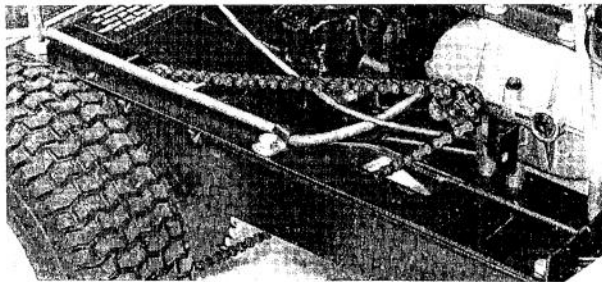

Figure 39
2. Check deflection of drive chain by lifting up and pressing down on chain with moderate pressure at mid span (Fig. 39). There should be 1/4 of an inch (6 mm) total deflection (Fig. 39). If deflection is not as specified, an adjustment is required — steps 3-14.